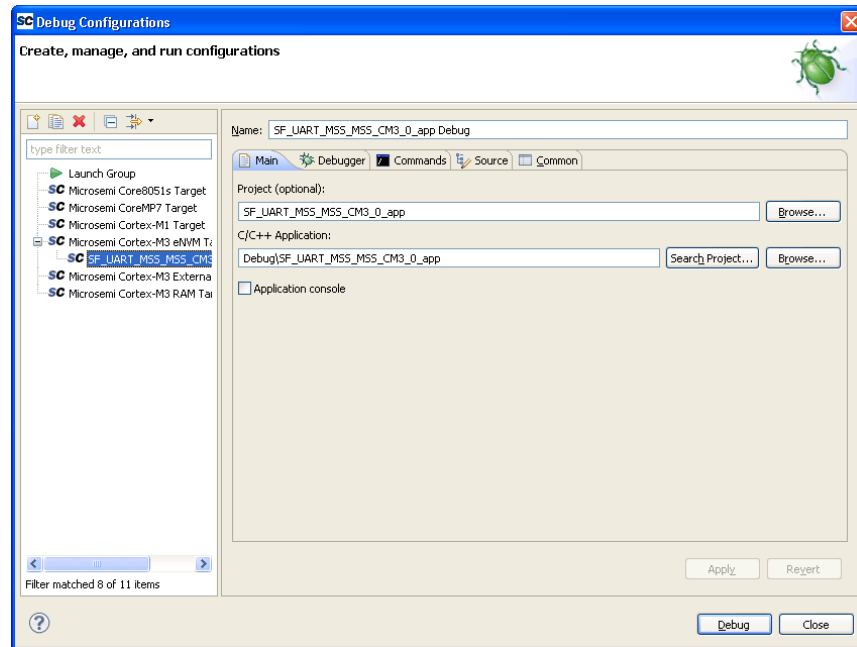

Figure 36 · Microsemi Cortex-M3 eNVM Target
12. Select **Open Debug Dialog** or **Debug Configurations** from the **Run** menu. The Debug dialog box is displayed. Double-click **Microsemi Cortex-M3 eNVM target**. The window is displayed, as shown in Figure 36 · .